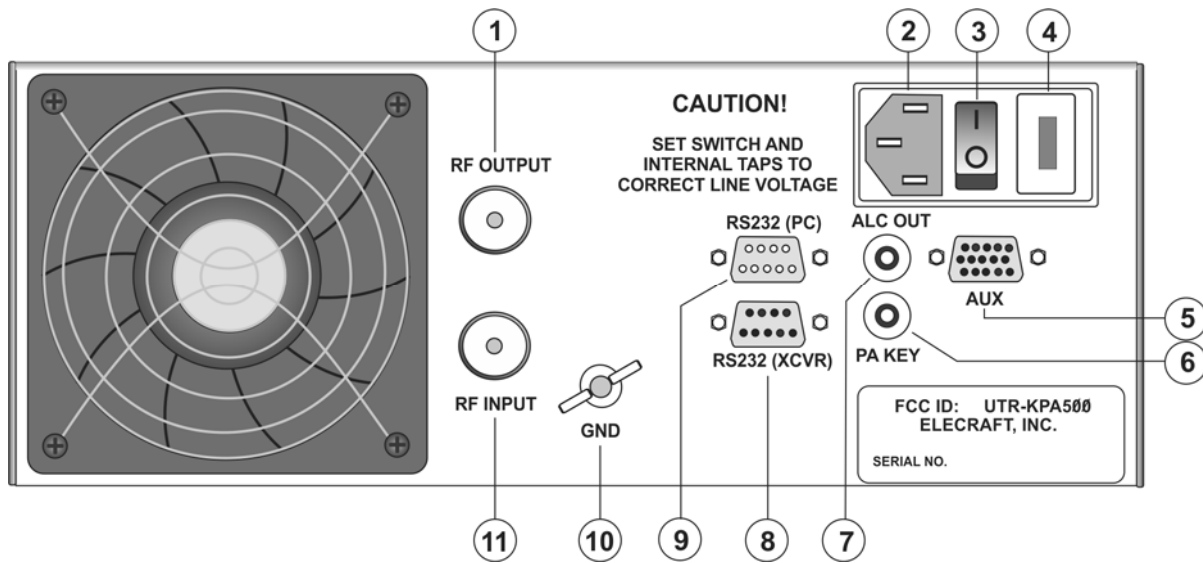

Figure 1. KPA 500 Rear Panel
The KPA500 rear panel is shown in Figure 1. The connectors and controls are described following the figure.
⚠ Always turn the amplifier off using the rear panel switch (③ in Figure 1) before attaching or removing cables.
1. Ensure a suitable 50 ohm load is attached to the RF OUTPUT connector on the rear panel (Figure 1, ①). A dummy load is recommended for initial tests.
2. Enable the power supply by pressing the rear panel rocker switch (Figure 1, ③) to the On (I) position.